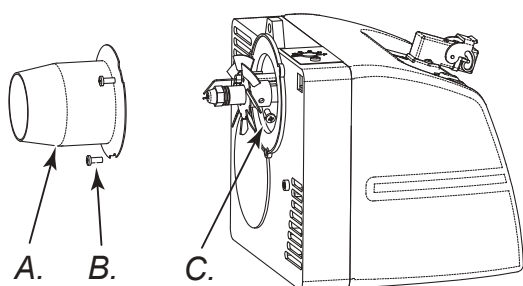

Figure 12 - Disassembly shell-burner
- Remove the three screws (B Fig. 12) that hold the burner tube (A Fig. 12).